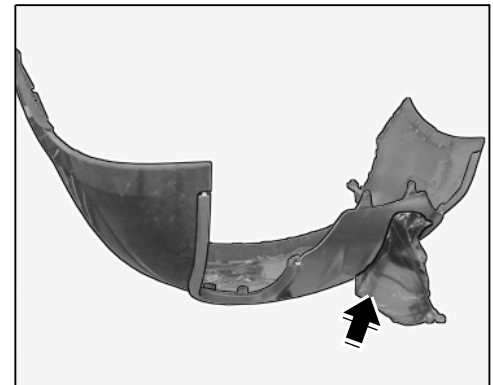

Figure 10
3.9 Pull film ⇒ *Figure 10 -Arrow-* off the stainless steel rear panel and clean the stainless steel rear panel with isopropanol (commercially available).